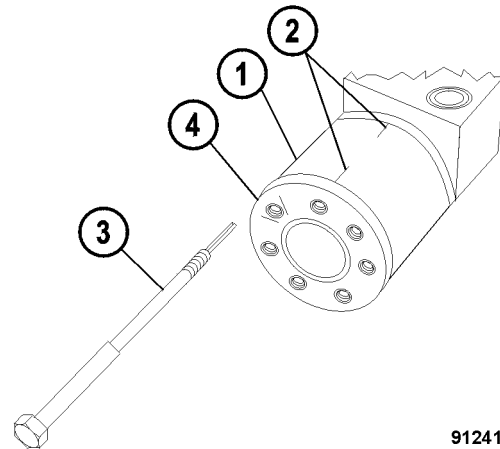

FIGURE 5-4. MARKING VALVE COMPONENTS
2. Match mark the gear wheel set and end cover to ensure proper relocation during reassembly. Refer to Figure 5-4.
3. Remove the end cover capscrews and washers. Remove cap screw with rolled pin (3, Figure 5-4). Mark the hole location of the cap screw with rolled pin on the end cover to facilitate reassembly.